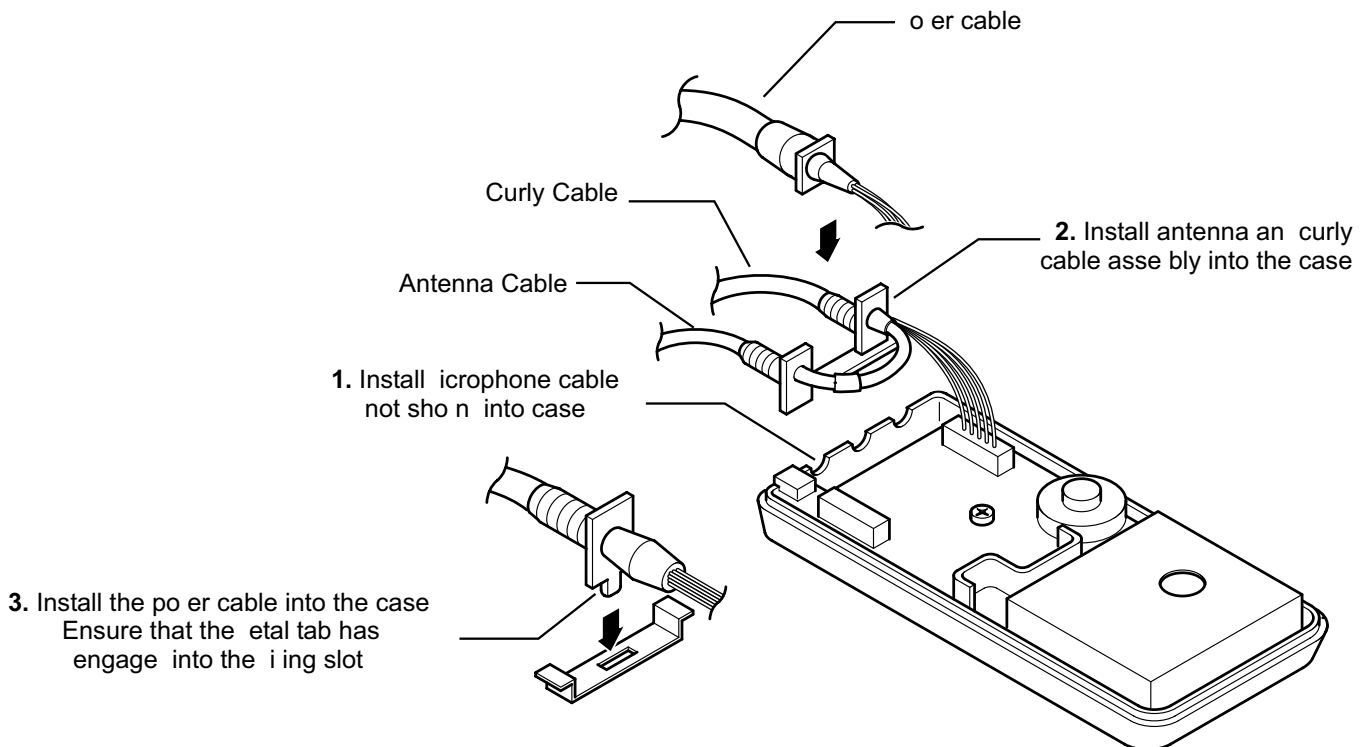

Figure 22: handset cable positioning
- Figure 22 Position the cables into the case following